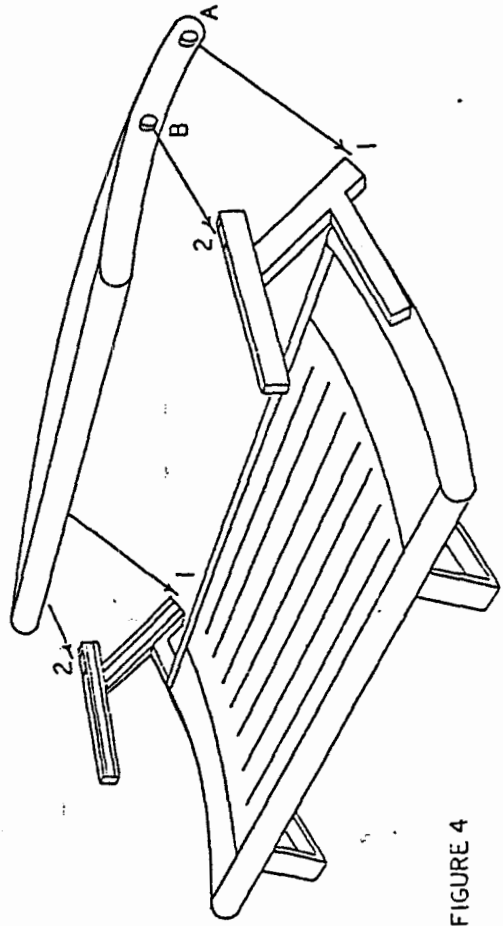

FIGURE 4
The following exercise will require two people. Hold the sunroof in a vertical position, (see figure 4) and simultaneously insert the rear rollers (A) into the rear angled groove (1) through the opening at the bottom of the arm. Still holding the sunroof, lift upward evenly (rear rollers will be rolling upward in rear groove) until center rollers are higher than the top of the roller arm. Tilt unit forward, and simultaneously insert center rollers (B) in horizontal groove through the opening (2) in the top of the arm, and pull sunroof forward, as closing it. The sunroof should now roll in the grooves, and easily open and close.